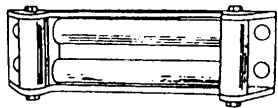

Figure 16
- EQUIPPING THE WINCH WITH A ROLLER FAIRLEAD** will substantially reduce wear on the wire rope during angle pulls (Figure 16). The rollers eliminate heavy rubbing and abrasion to the wire rope.